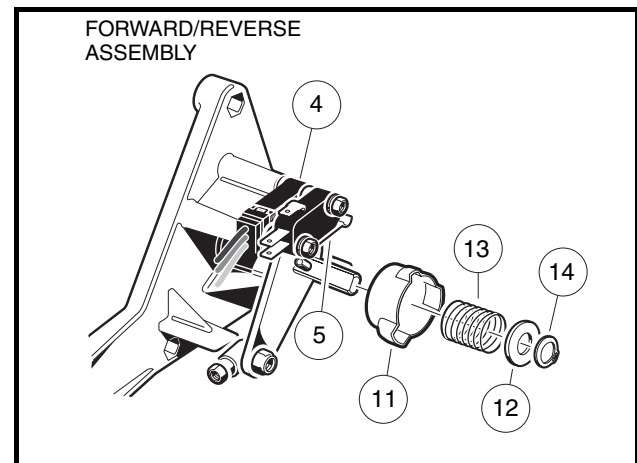

Figure 13-20 Lockout Cam
3. Remove the external snap ring (14) (**Figure 13-20, Page 13-18**).
4. Remove the plastic washer (12) and the spring (13).
5. Remove the cam (11).
1. Install the cam (11) (**Figure 13-20, Page 13-18**).
2. Install the spring (13) and the plastic washer (12).
3. Install the external snap ring (14) into the groove on the shaft. The lockout limit switch should be activated only when the Forward/Reverse handle is in the NEUTRAL position.